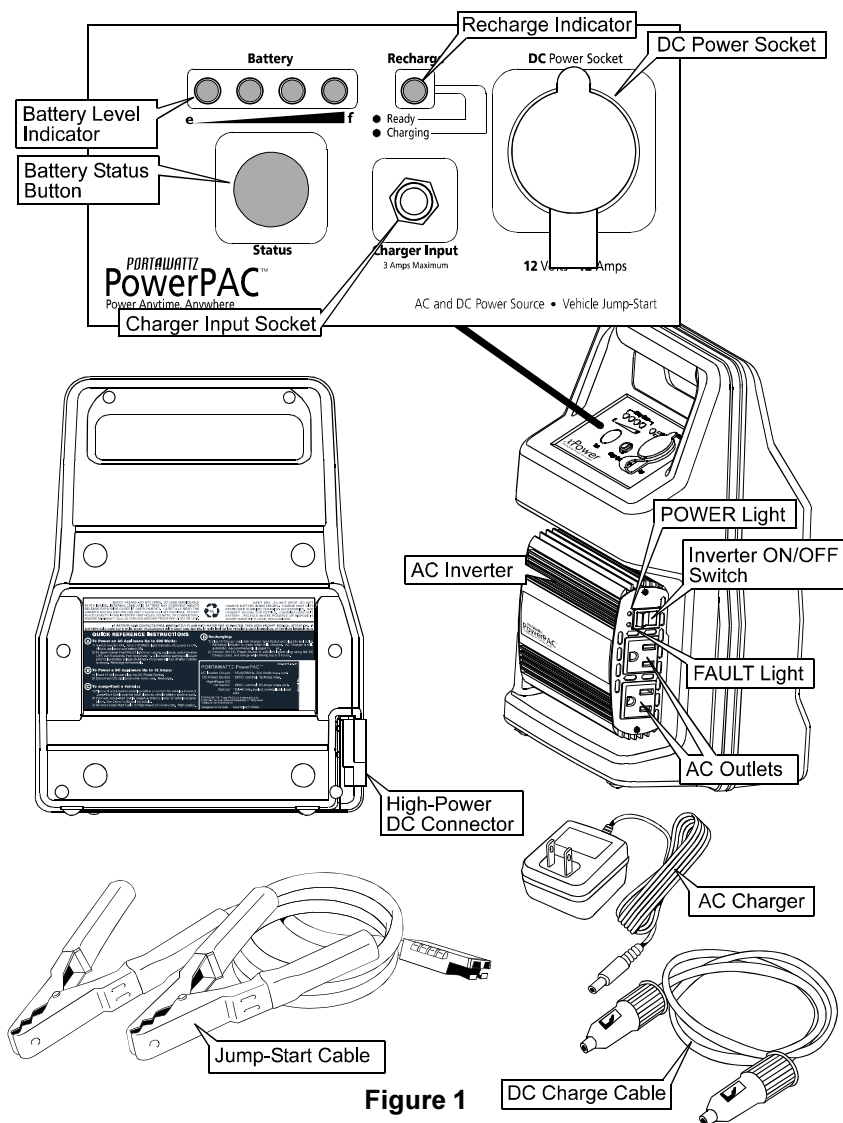

Figure 1
Refer to Figure 1 in Section 3.1 for location of the items identified below.
1. Turn on the AC inverter switch located on the inverter's right side. The green POWER light that illuminates adjacent to the switch indicates AC power is now on and available at the two inverter AC outlets. See Figure 1 in Section 3.1.